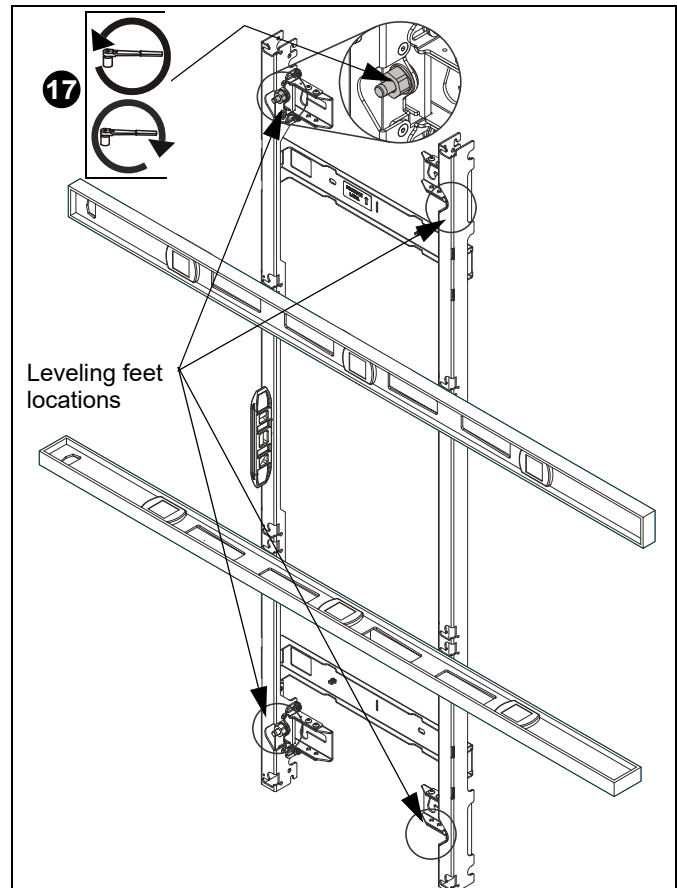

Figure 11
17. Using a level on the front of the mount in various places, use a 3/4" or 19mm deep-well socket and square drive ratcheting wrench to adjust the leveling feet on the mount until the mount is plumb or even with something that is being used as a reference point. (See Figure 11)